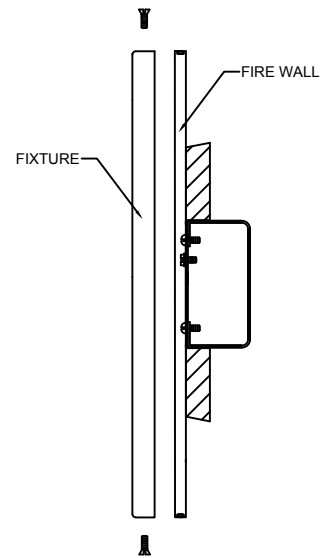

FIGURE-02
5. Attach the fixture to the firewall and secure it with flat head screws (See Figure-02)